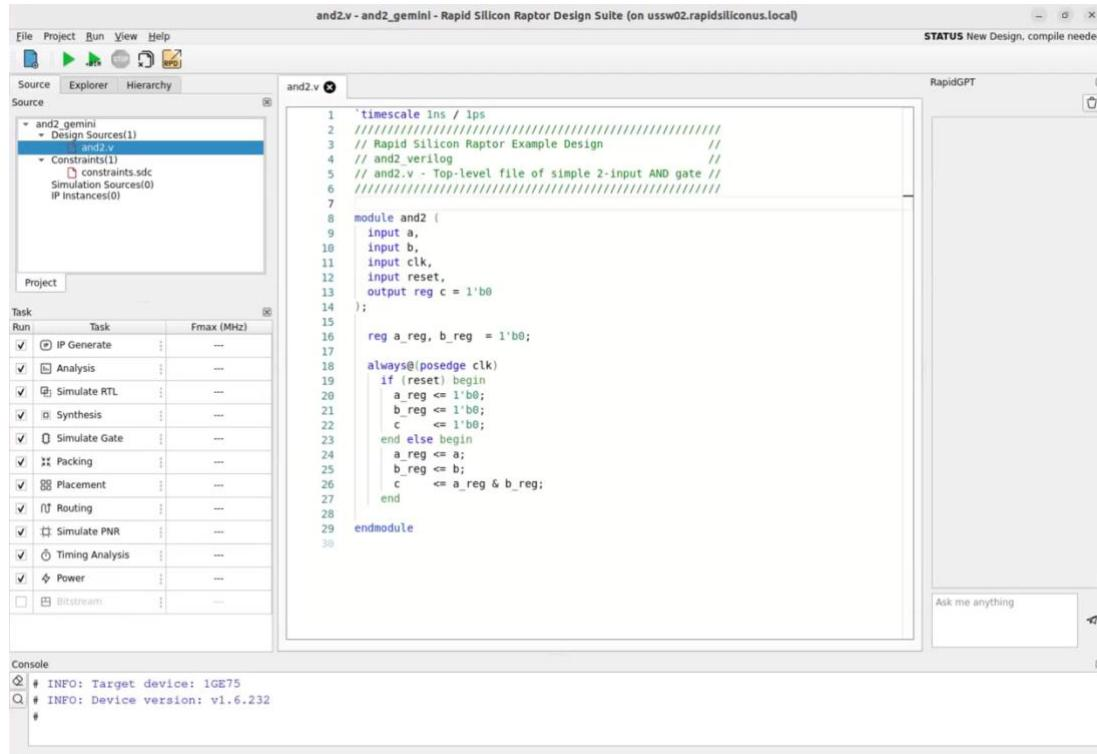

Figure 21. Compile the Design
12. Compile the design: Hit the play button from Menu tool bar to start the compilation as shown in Figure 21.